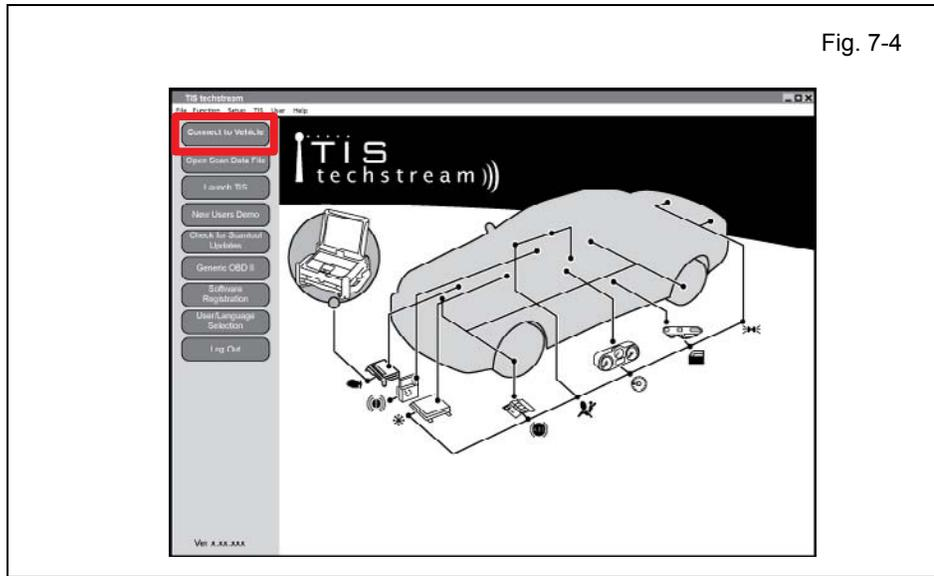

Fig. 7-4
- f. Click “Connect to Vehicle”. (Fig. 7-4)